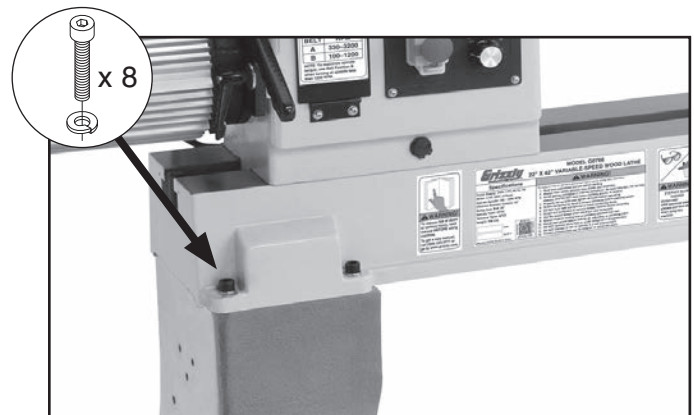

Figure 12. Securing lathe assembly.
3. Secure lathe assembly to stand legs with (8) M10-1.25 x 35 cap screws and 10mm lock washers, as shown in **Figure 12**.